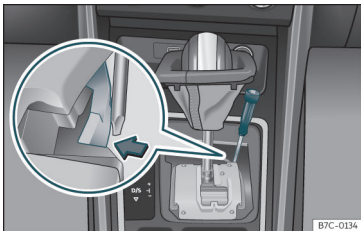

Fig. 46 Selector lever: manual release from position P.
- Using a screwdriver, press and hold the yellow unlocking tab sideways  **Fig. 46**.